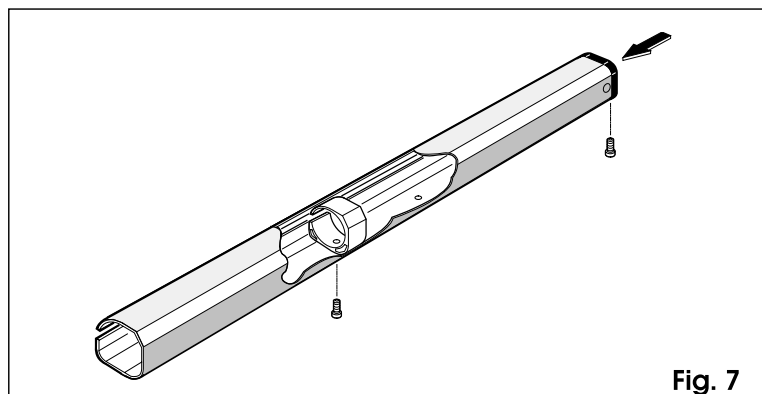

Fig. 7
- 12) Fit the cover (fig. 7) on the operator as shown in fig. 8.
- N.B.:** Fix the guide support of the cover on the hole furthest from the cap (fig.7).